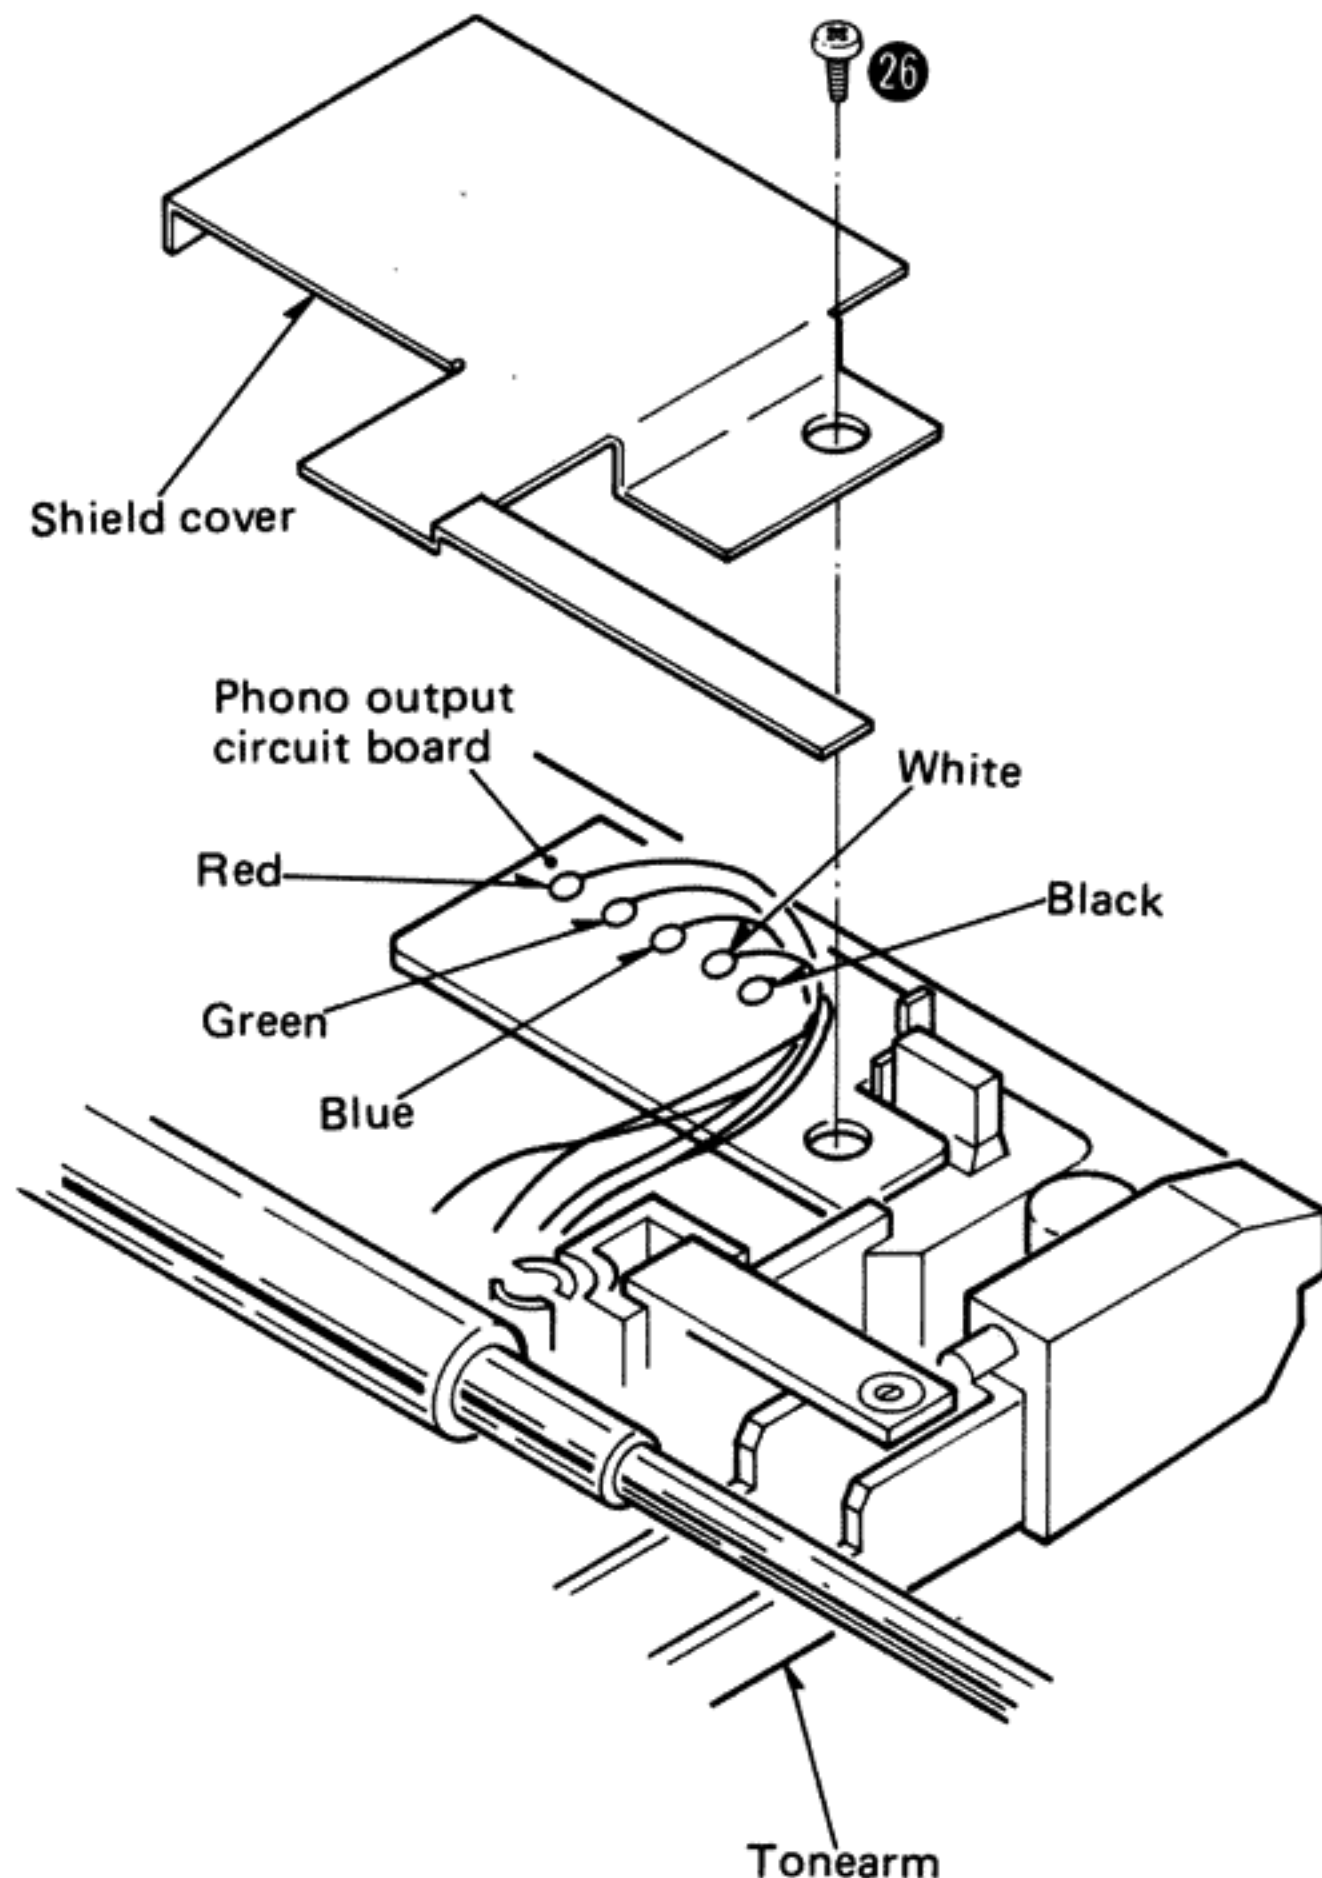

Fig. 13
2. Remove the shield cover setscrew (Fig. 13 : 26) and shield cover.